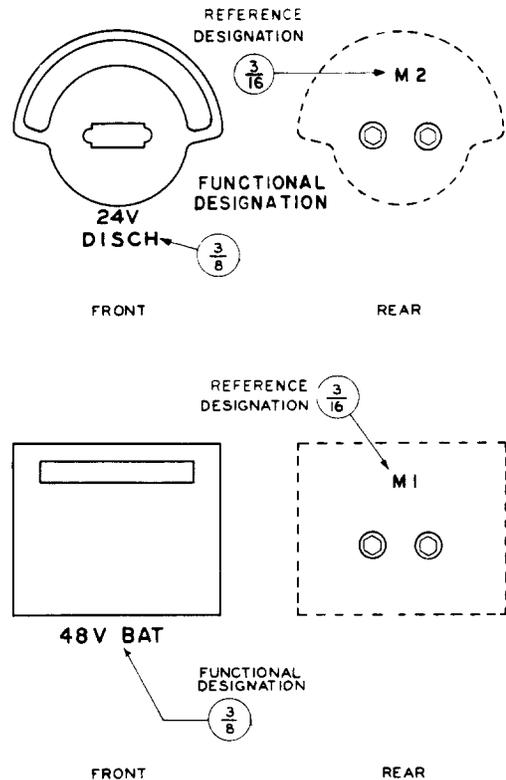

Fig. 35 - Switchboard-Type Meters and Electrical Measuring Instruments
2.42 Designate electrical indicating instrument per Fig. 35 and 50.
2.43 Designate meters as shown in Fig. 35 and 50.